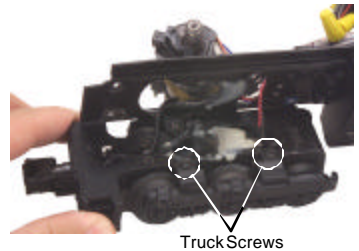

Figure 4. Screws to Remove to Access the Traction Tires
First, remove the truck sides from the truck block. To do this, turn your engine upside down. If there are visible Phillips screw heads between the truck frame and truck block (see Fig. 4), go to step A. If not, go to step B.
B. Remove the trucks from the chassis and the truck sides from the trucks in order to slip the new tire over the grooved drive wheel. See Fig. 4 for which screws you must remove to do this.